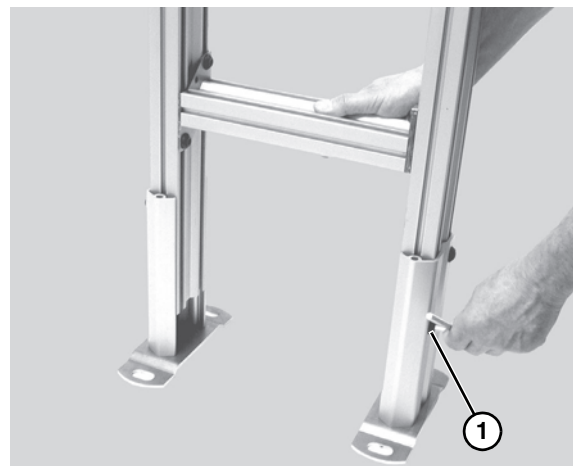

Figure 15
- Loosen stand boot screws (Figure 15, item 1).